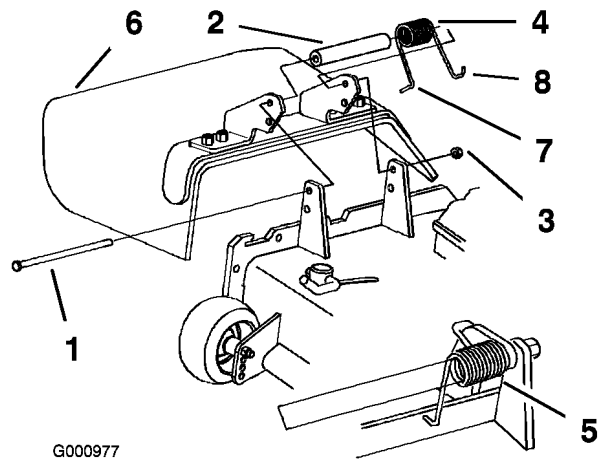

Figure 86
1. Remove the locknut, bolt, spring and spacer holding the deflector to the pivot brackets (Figure 86). Remove the damaged or worn grass deflector.
Note: Make sure the L end of the spring is installed behind the deck edge before installing the bolt as shown in Figure 86.
3. Install the bolt and nut. Place the **J** hook end of the spring around the grass deflector (Figure 86).